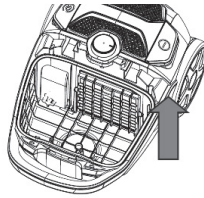

Fig. 14
2. Inlet filter: clean the filter with warm water and allow to dry fully before placing back into the unit. (Fig 14)